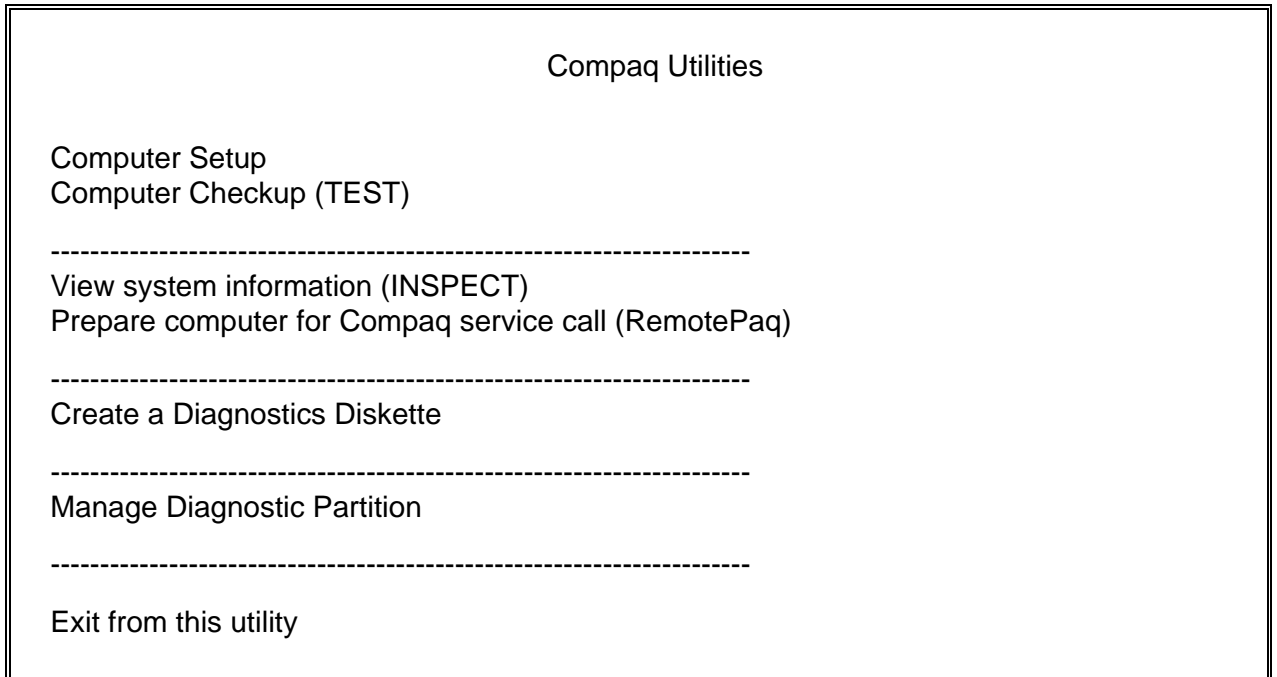

Figure 2-2. Configuration and Diagnostics Menu
You can access the Configuration and Diagnostics utilities at startup from the hard drive or from the diskettes. Procedures for both methods are presented below. Both procedures display the Configuration and Diagnostics menu. Your particular menu may differ slightly from the one shown in Figure 2-2.
5. A menu similar to the one shown in Figure 2-2 is displayed. You are prompted through any procedure that you select.
6. If you load the Diagnostics diskette, a menu similar to the one shown in Figure 2-2 is displayed. If you select Computer Setup from this menu, you are prompted to insert the Setup diskette. You are prompted through any procedure that you select.